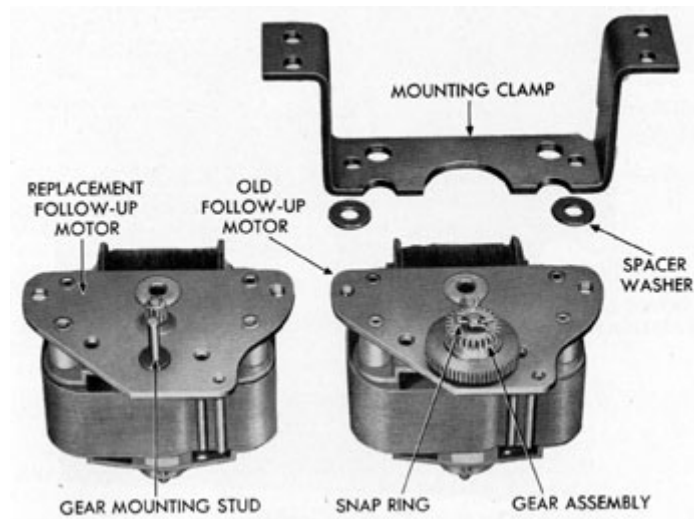

Figure 13-31. Replacing follow-up motor, Step 1.
**13G4. Replacing the follow-up motor.** (See Figures 13-31 and 13-32.) Remove the fan from the follow-up motor shaft by loosening the setscrew in the fan hub. Remove the motor mounting clamp from the old motor by removing the two screws, lock washers, and spacer washers that secure the clamp to the motor. Remove the gear assembly from the old motor by removing the snap ring and lifting the gear assembly from the gear mounting
stud of the motor as shown in Figure 13-31. Place the gear assembly on the stud of